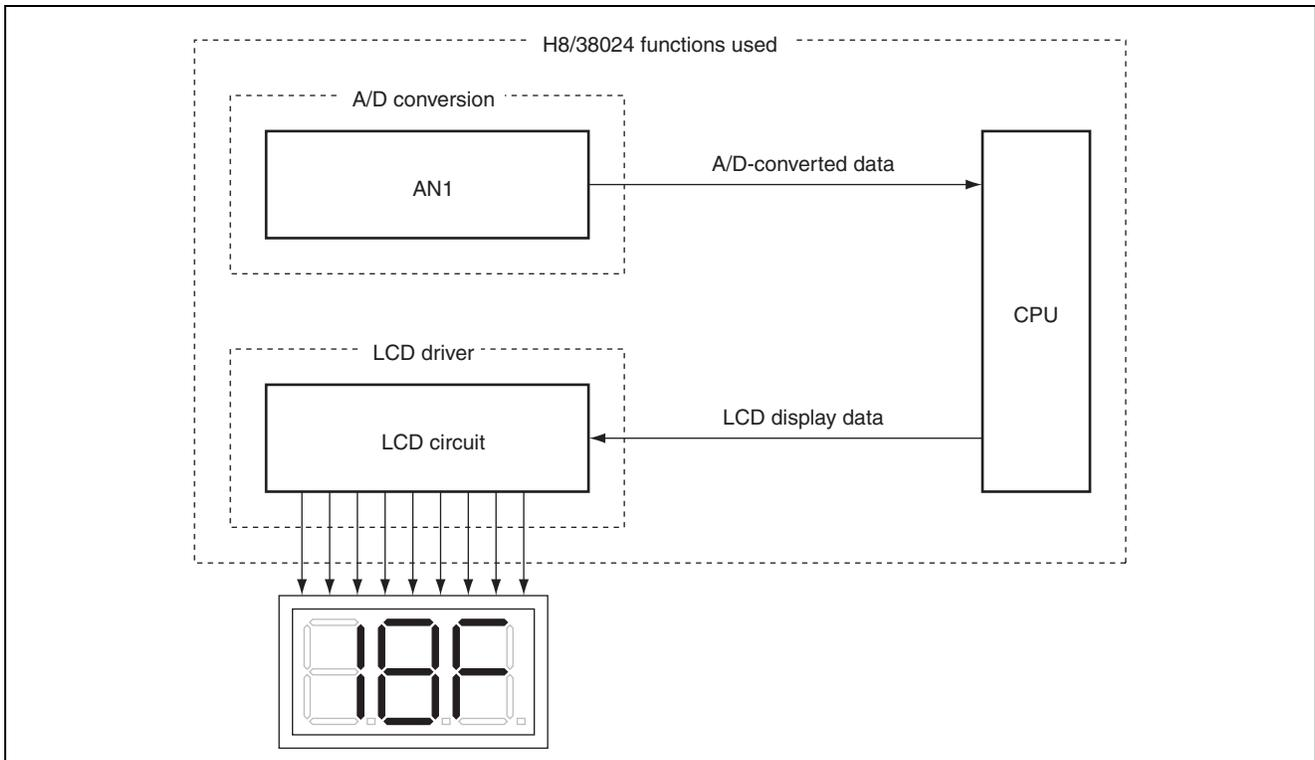

Figure 2.1 H8/38024 Functions Used
1. This section explains the H8/38024 functions used for A/D conversion and LCD display. Figure 2.1 shows the block diagram of the functions used in this sample task.